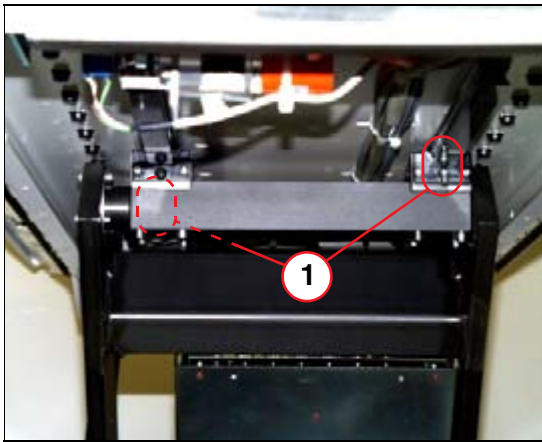

Fig. 7: Scissor: location of grease nipple
- Place the connector of the lubricant gun on one of the lubrication fittings of the guide rail to be lubricated (1/Fig. 7 / p. 28).